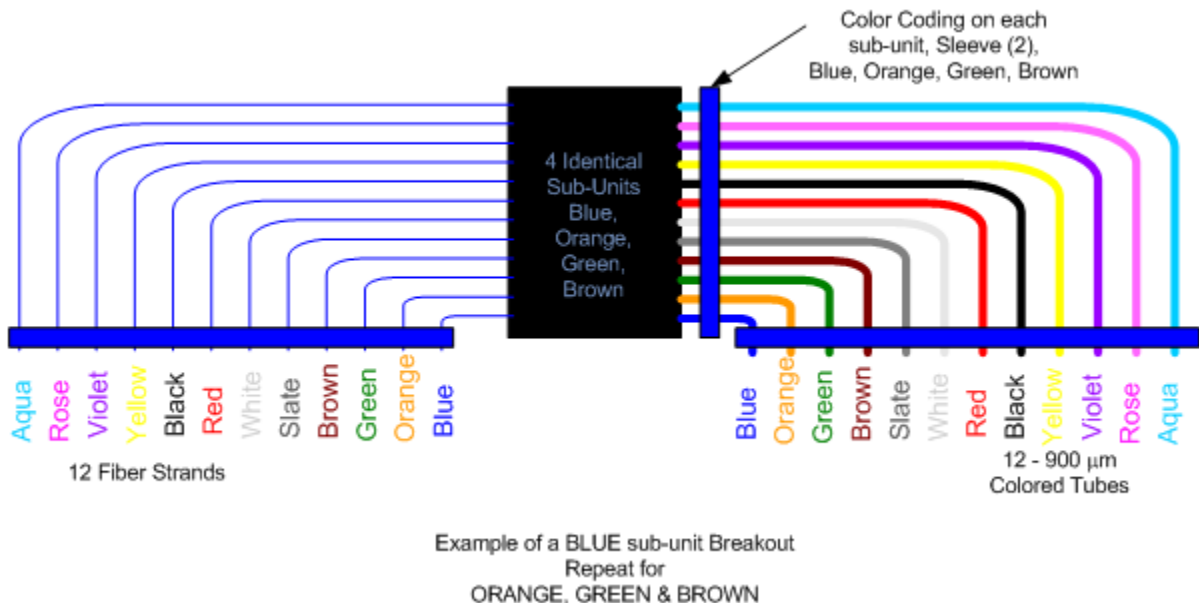

Figure 5
7.3 Begin with the Blue sub-unit. Insert each fiber into its colored-coded tube. Begin with the blue strand first, followed by the orange, and so on until all 12 fibers are started into the Breakout Unit Assembly 900 μ m tubes. Work carefully, comb the fibers, and ensure strands are not crossed or twisted. **See Fig. 5.**